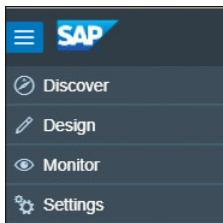

Figure 3.8 Accessing the Integration Content Catalog Main Page
2. Select the **Discover** menu item on the left side of the page to access the Integration Content Catalog, as shown in Figure 3.8.
- After performing the copy action, the copied package and its artifacts are displayed in your own design workspace. Click on the **Design** section (refer to Figure 3.8) to further enhance the copied content. Figure 3.15 shows that the copied package is now available in the customer's workspace, on the left.